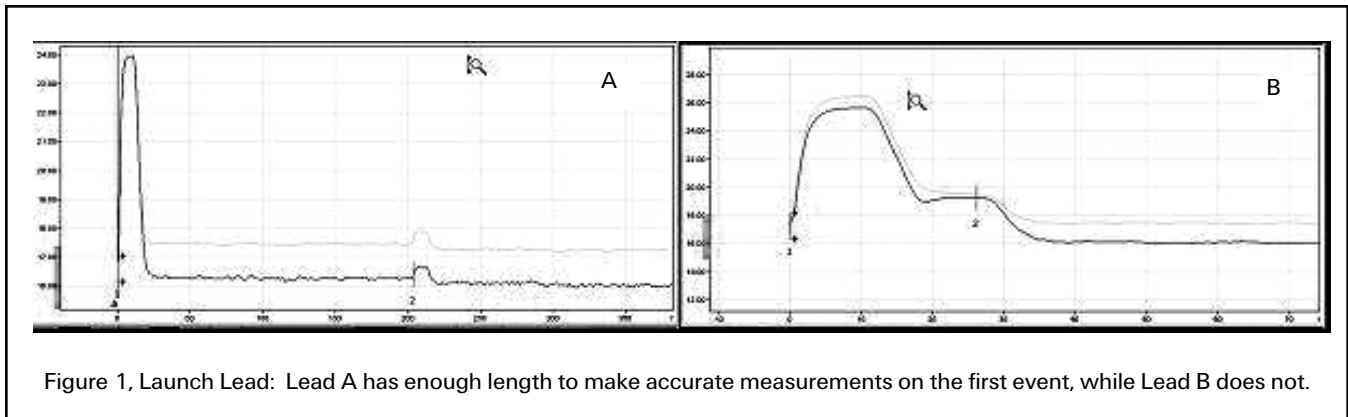

Figure 1, Launch Lead: Lead A has enough length to make accurate measurements on the first event, while Lead B does not.
- Launch lead jumper - ~200 ft minimum to allow the OTDR to recover from the initial dead zone event. See Figure 1